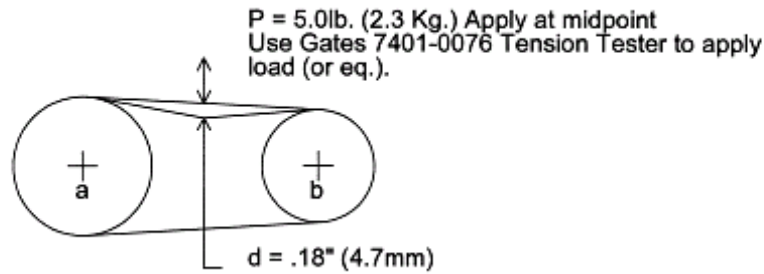

Figure 2: Belt Tension Inspection
- b. Verify proper belt tension as shown in the illustration shown in Figure 2.